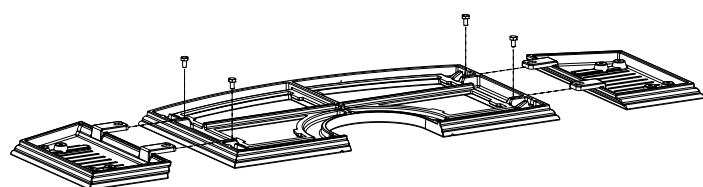

Figure 34
4. Place left and right side shelves in place shown in Figure 34.
**Note:** Due to inherent properties of the casting process, non-combustible shims may be required to level accessory side shelves to the casting top. These shims are provided in the form of washers to be used on either side of the bolts. See Figure 34. If accessory shelf angles downward, toward the floor, washer(s) will need to be added to the center side of the bolt. Conversely, if the accessory side shelf angles upward, toward the ceiling, washer(s) will need to be added to the outside of the top casting side of the bolt. See Figure 37.